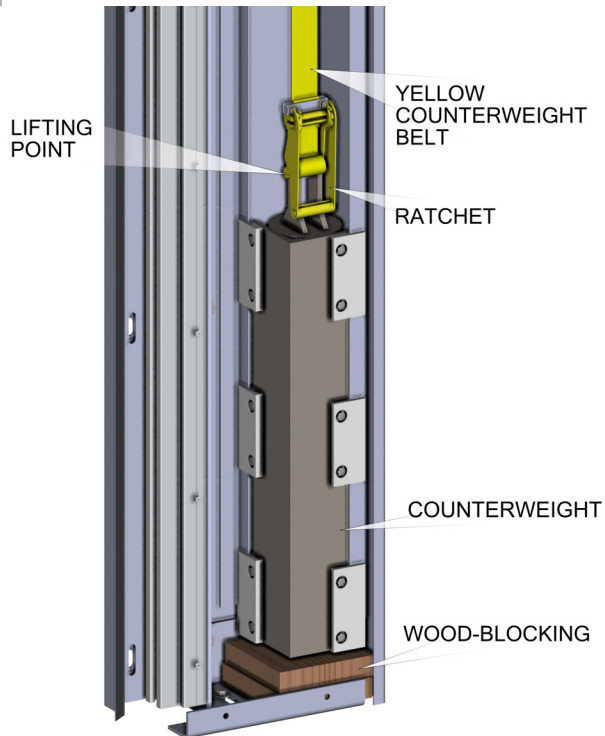

FIG 2.0
2. Place wood blocking under the counterweights and position the door in the full open position, as shown in **FIG 2.0**.